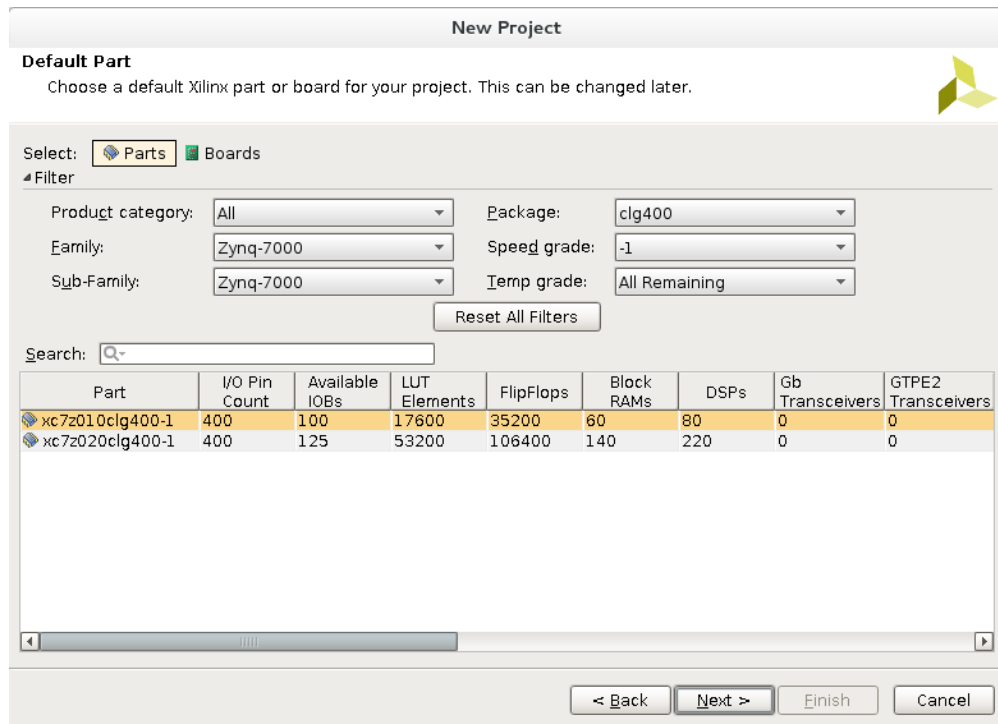

Figure 3: Device Properties
- (c) Next, the 'Default Part' window appears (Figure 3). We can select our hardware from the 'Parts' tab or from the 'Boards' tab. The 'Parts' tab lists Xilinx supported Parts(FPGAs) and the 'Boards' tab lists the supported boards. The ZYBO Z7-10 (Zynq Board) is an entry-level digital circuit development platform built around the Xilinx Zynq-7000 family, the Z-7010. The Z-7010 is based on the Xilinx All Programmable System-on-Chip (AP SoC) architecture, which